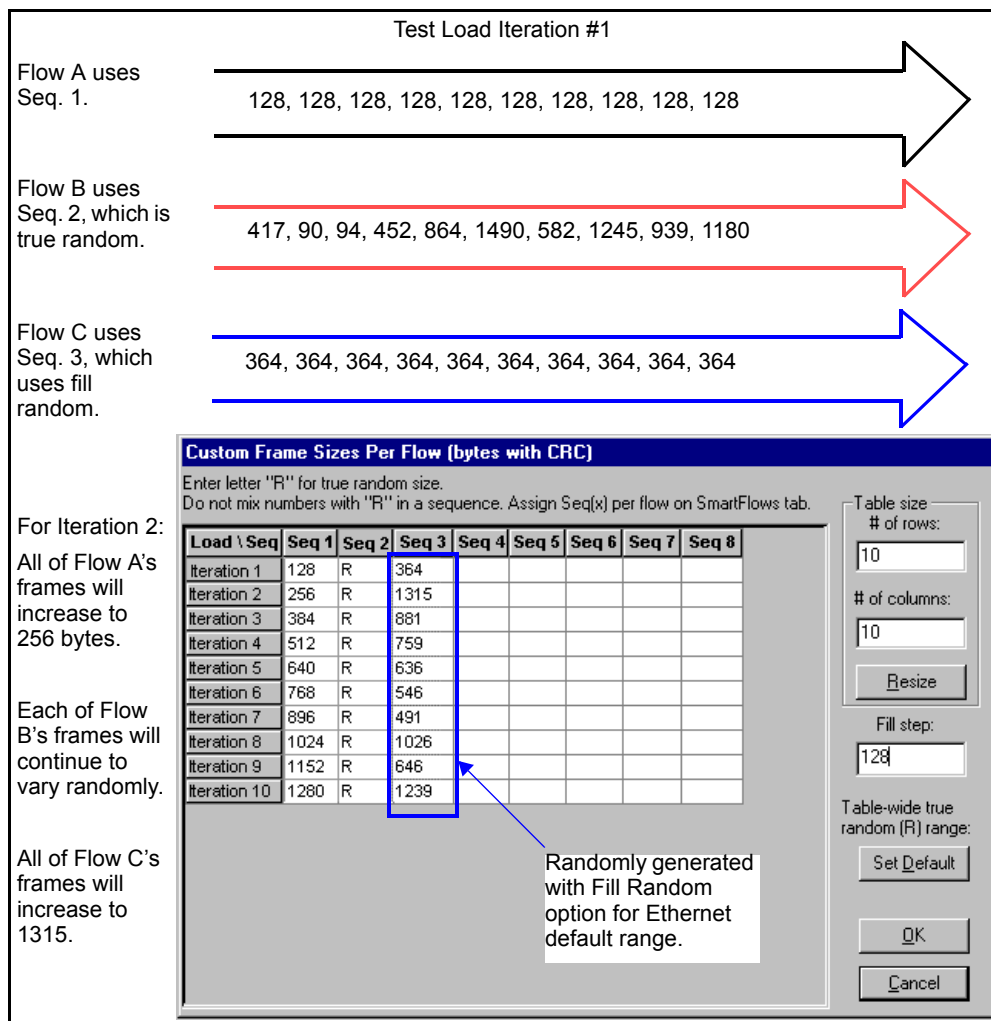

Figure 8-12. How Random Frame Size Generation Methods Differ
Figure 8-12 on page 232 illustrates how true random (R) and fill random frame size generation methods differ.